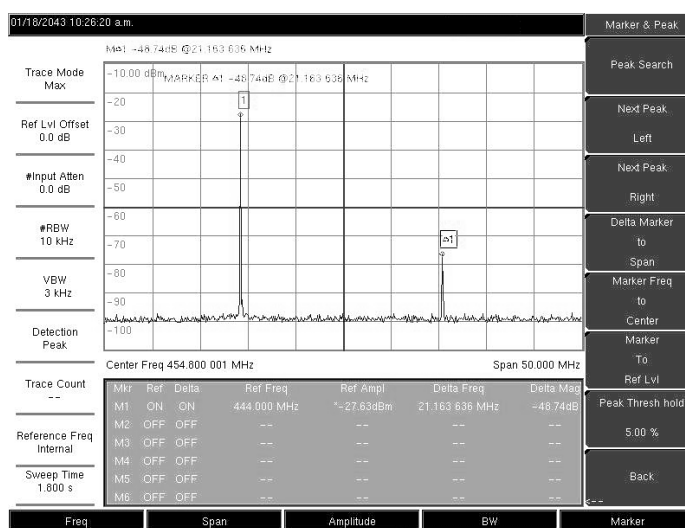

Figure 5-2. Simulated Out-of-Band Spurious Emission Measurement
10. Repeat Steps 9 and 10 for the remaining spurs. Use either Marker 1 again, or choose another marker. A simulated out-of-band spurious signal 21.000 MHz from the carrier using a delta marker is shown in Figure 5-2.